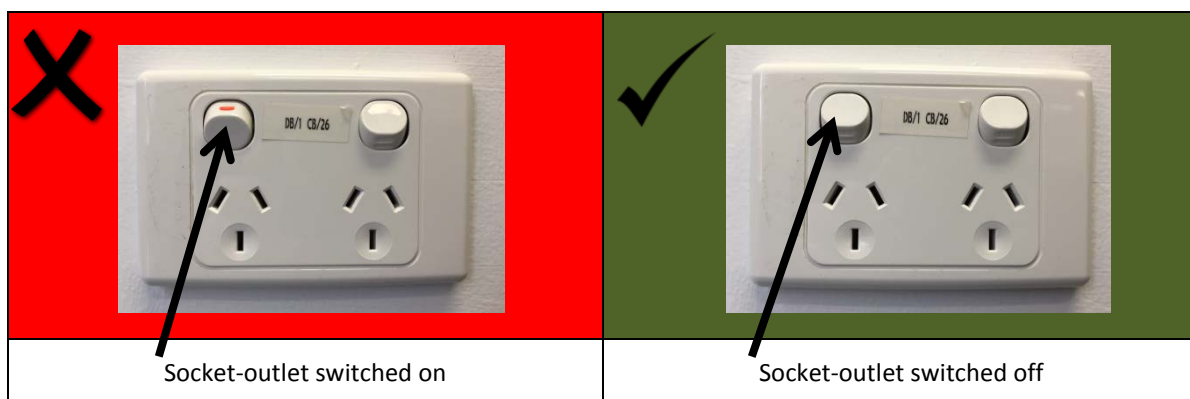

Figure 2: Confirm socket-outlet is switched off
2. Confirm socket-outlet is switched off (Figure 2).